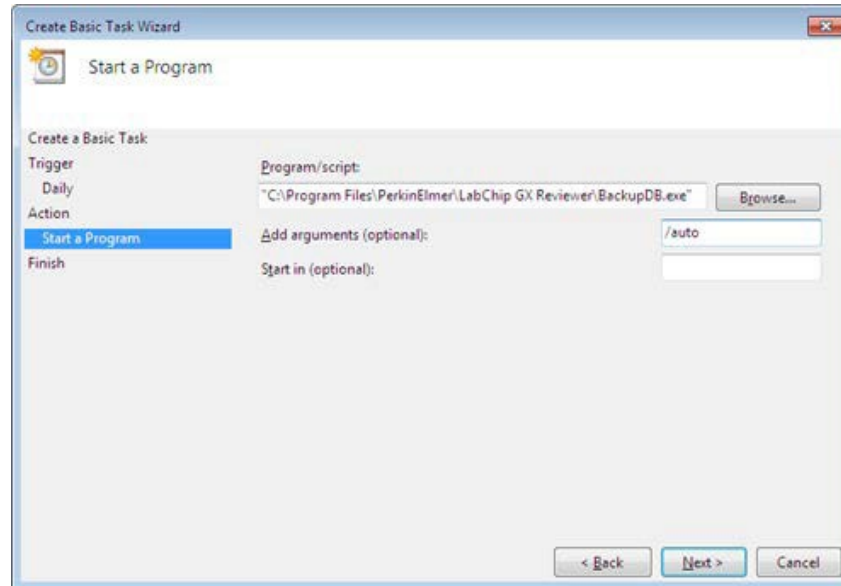

Figure 69. Add Arguments
- 9 Type **/auto** into the **Add arguments** text box and click the **Next** button. See Figure 69.